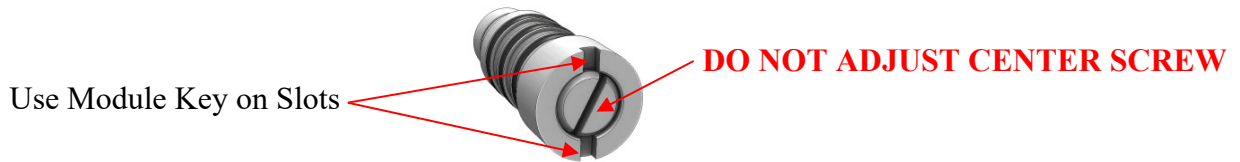

Figure 31: Control Module
18. Remove the input module from the bottom of the modulating pilot body using either the flush end of the module key tool or a wide flat head screw driver. See Figure 31.